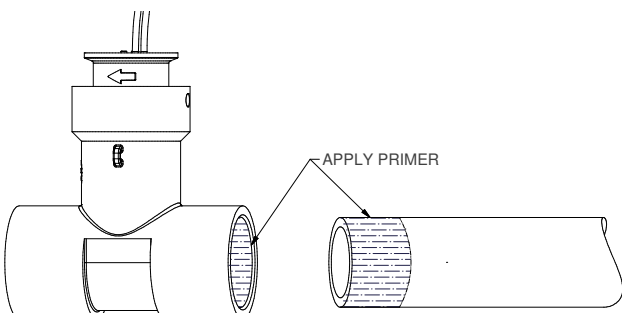

Figure 3
2. Clean and apply Primer to pipe ends and tee sockets (See Figure 3).